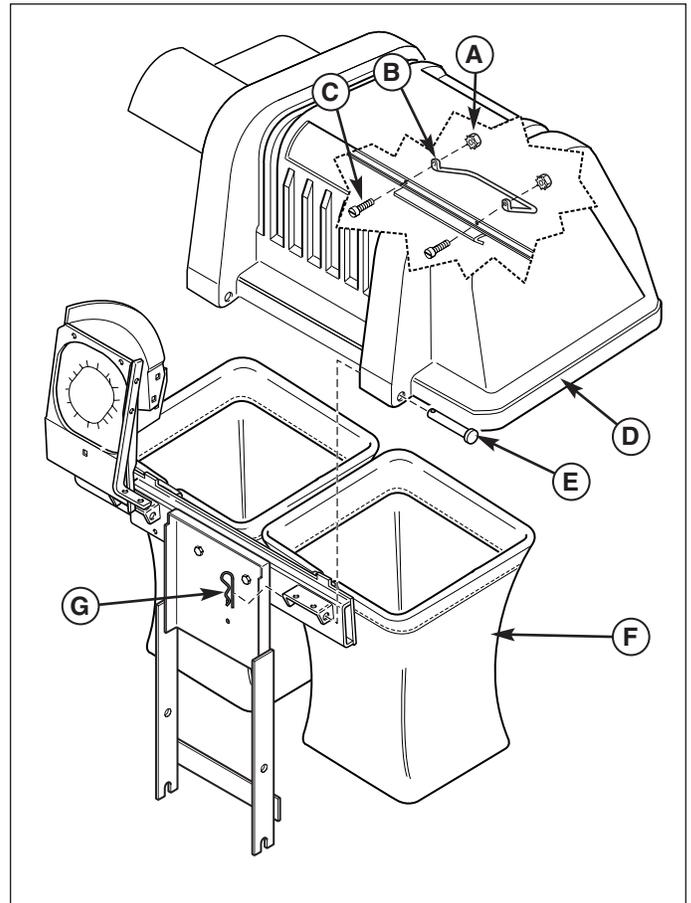
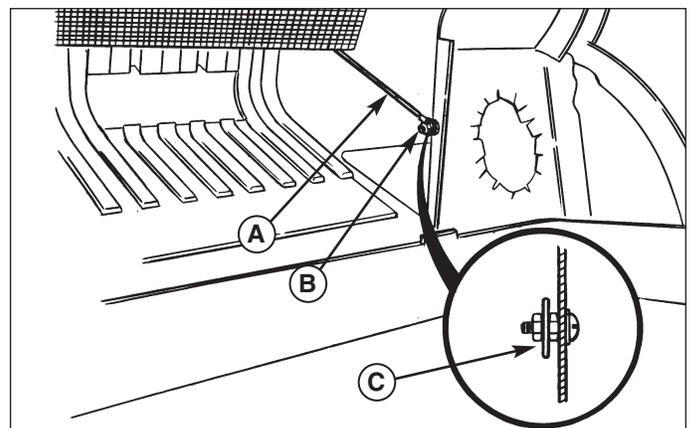
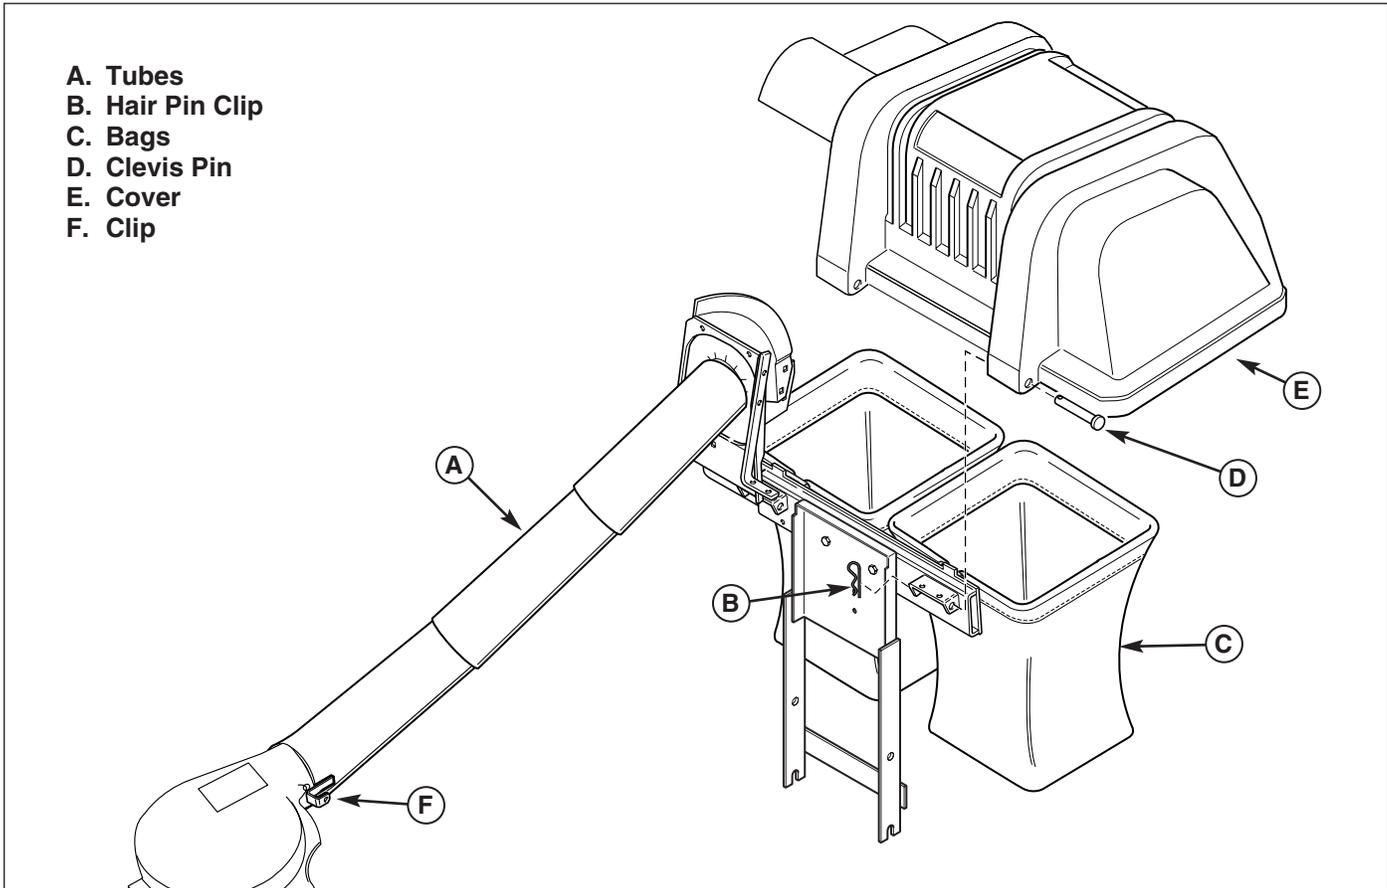

Figure 7. Install Catcher
Figure 8. Install Cable
Figure 9. Normal Removal & Installation
1. Hang the bags (F, Figure 7) on the horizontal support.
2. Install the handle (B) inside the cover. Secure with two #10-32 x 1/2 screws (C) and nuts (A).
3. Rest the cover assembly (D) on the bags (F).
4. Install the two hinge pins (E) and secure with hair pin clips (G).
5. Open the cover and fasten cable (A, Figure 8) to support (B). The looped cable end fits over washer (C).
1. Disconnect the tubes (A, Figure 9) from the turbo and remove them from the catcher.
2. Remove the hair pin clip (B, Figure 9) and clevis pin (D) securing the cover (E). Disconnect the cable (see Figure 8). Remove the cover (E).
3. Remove and empty the bags (C, Figure 9).
4. Connect the cover cable (Figure 8).